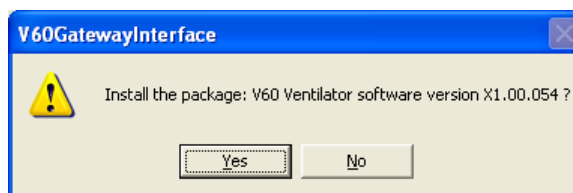

Figure A-10: Confirmation Screen
7. At the confirmation screen, click **Yes** to continue the option installation or **No** to exit (Figure A-10).